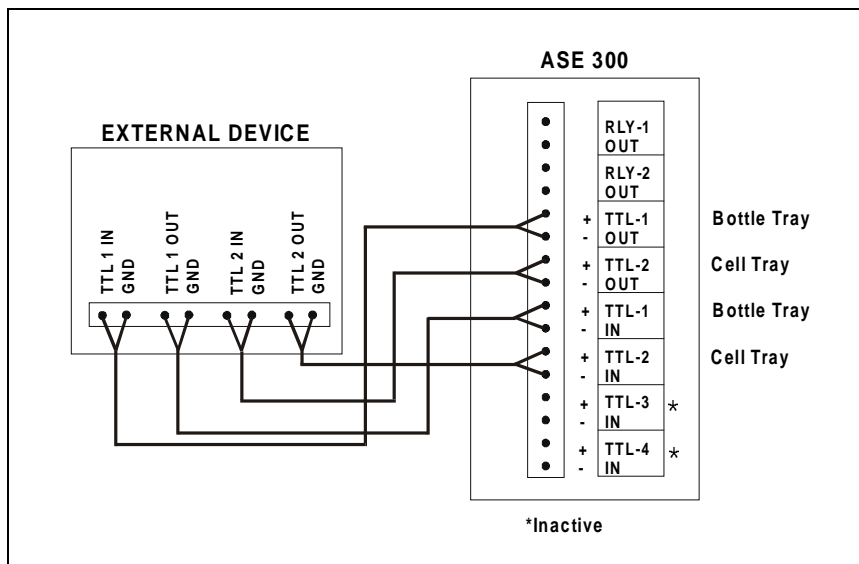

Figure 3-7. TTL Connections to an External Device
TTL input 1 controls movement of the collection bottle tray and TTL input 2 controls movement of the cell tray. Figure 3-7 shows the setup required for the external device to access both trays.
4. Check the polarity of each connection. Be sure to connect signal wires to signal (+) pins and ground wires to ground (-) pins (see Figure 3-7).